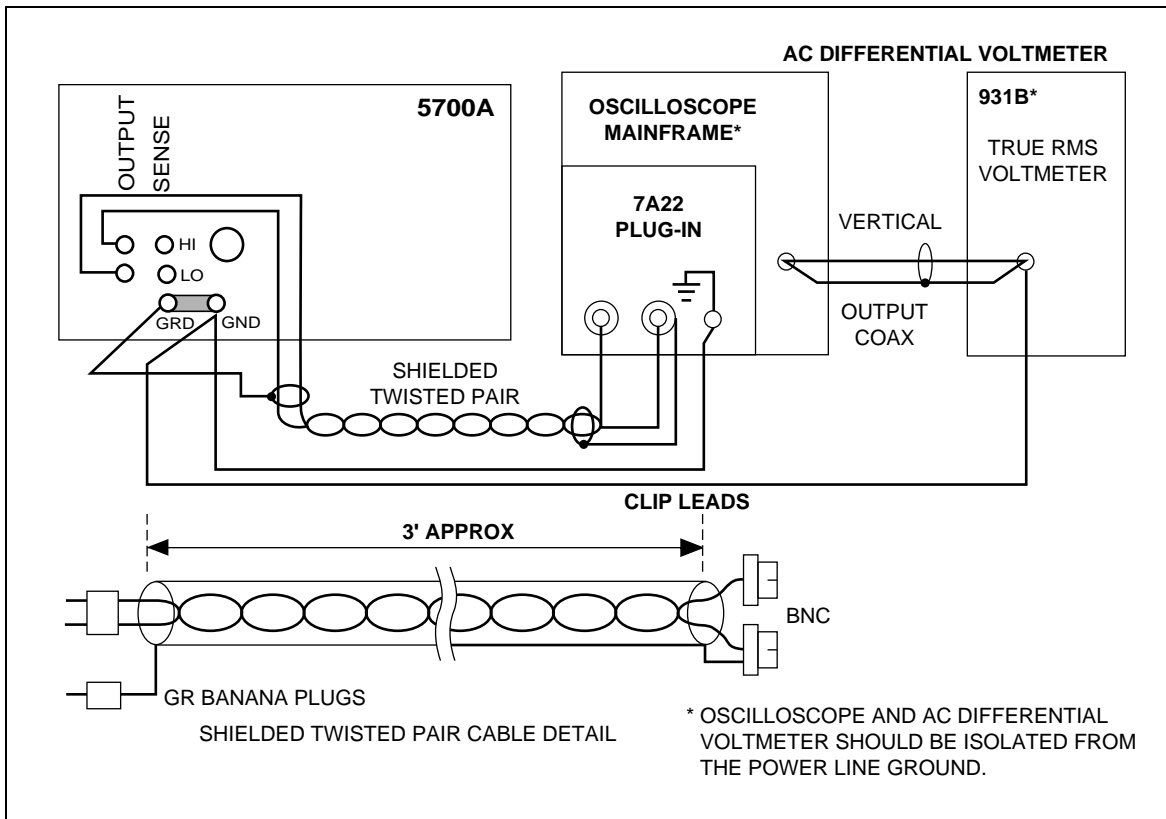

Figure 3-16. DC Voltage Output Noise Test Setup
1. Connect the equipment as shown in Figure 3-16.